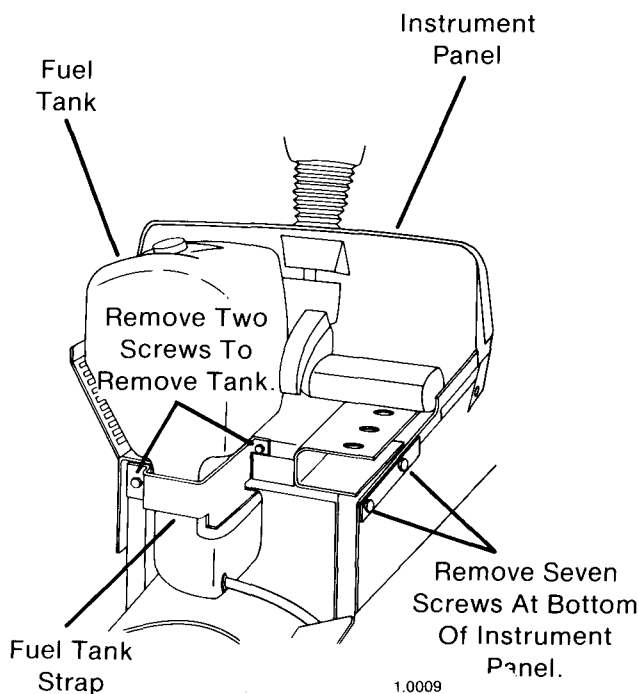

FIG. 29
- D. Remove seven (7) thread forming screws at bottom of instrument panel holding panel to both sides of main frame. (Fig. 29)